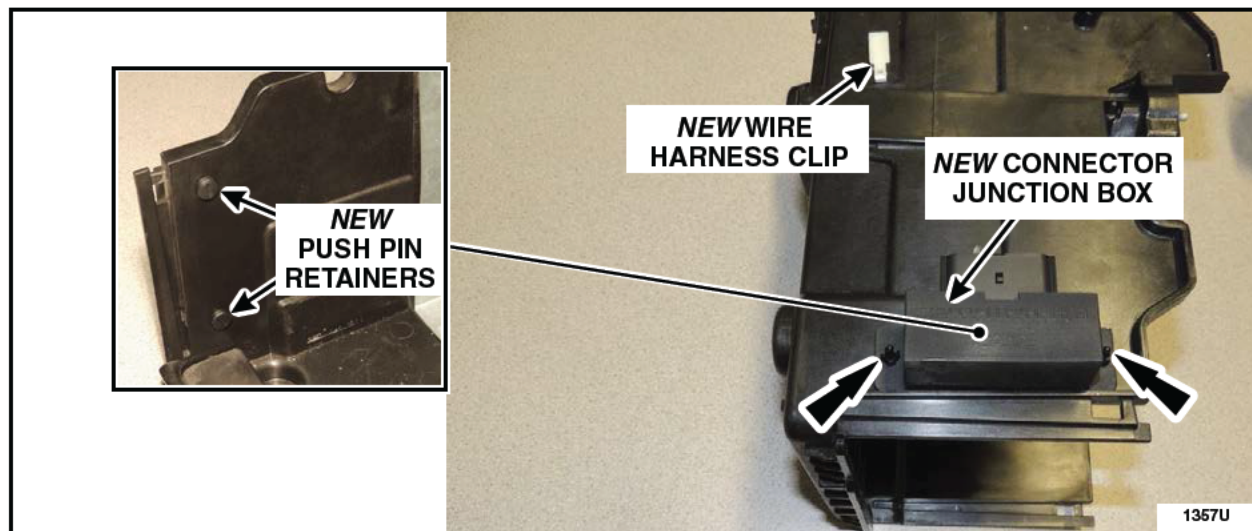

FIGURE C4
SERVICE TIPS: Remove the two (2) push pin retainers from the connector junction box, prior to installation. While installing the connector junction box ensure that the push pin retainers are installed in the proper orientation. See Figure C4.
4. Deburr the four (4) previously drilled holes on the battery tray as necessary.
5. Attach the *new* connector junction box to the battery tray using the two (2) *new* push pin retainers. Install the *new* push pin retainers so the heads of the retainers are on the INSIDE of the battery tray. See Figure C4.
6. Install the *new* wire harness clip onto the battery tray. The christmas tree portion of the *new* wire harness clip is to be installed into the larger of the two mounting holes. See Figure C4.